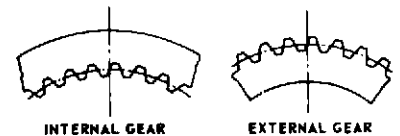

FIGURE 1.6 — INTERNAL & EXTERNAL GEARS
- 1.14** An **Internal Gear** is one with the teeth formed on the inner surface of a cylinder or cone. An internal gear can be meshed only with an external pinion (Figure 1.6)
- 1.15** An **External Gear** is one with the teeth formed on the outer surface of a cylinder or cone. (Figure 1.6)